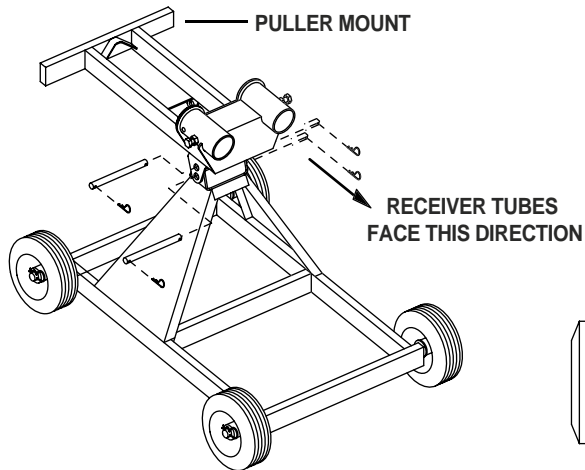

figure 14a
2. Position the puller mount on top of the mobile carriage with the puller mount facing the direction shown in Figure 14a. Insert 2 pins (8091-5) and secure with spring clips. *See Figure 14a.* The bracket on the bottom of the puller mount should be on the outside of the bracket on the mobile carriage. (*See Figure 14b.*)